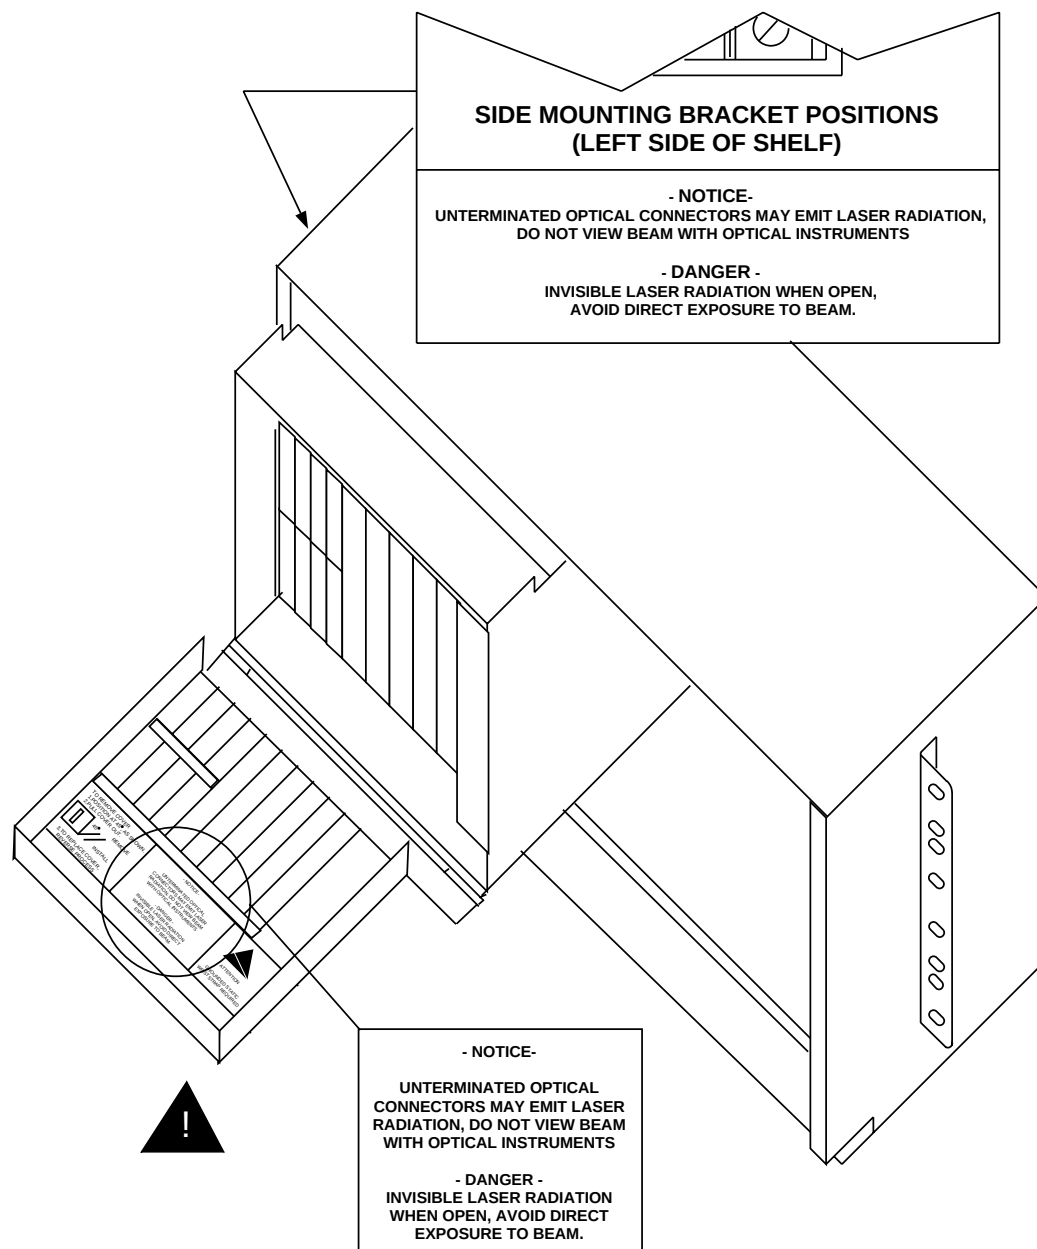

Figure 1. Safety Label Position on FiberReach Shelf
3. Since viewing lightwave emission directly with an optical instrument such as an eye loupe greatly increases the risk of eye damage, an appropriate safety label (Figure 1) must appear in plain view on the front of the main frame or lightguide termination/interconnection equipment. The label shall read as follows: